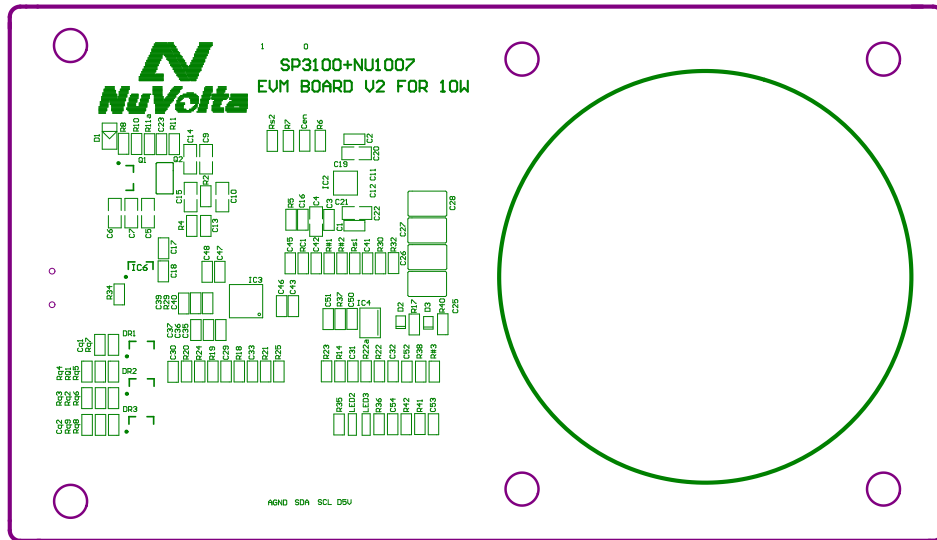

Figure 2. Top Overlay
- Separate the analog-ground plane from the power-ground plane, and use only one point to join them. Please refer to the R34 of Figure 2.
- Place small-size Xf input capacitors as close as possible between the Vin pin and PGND pin. These capacitors can effectively filter out high-frequency noises due to their low ESR and ESL. Please refer to C19 and C21 in Figure 2.